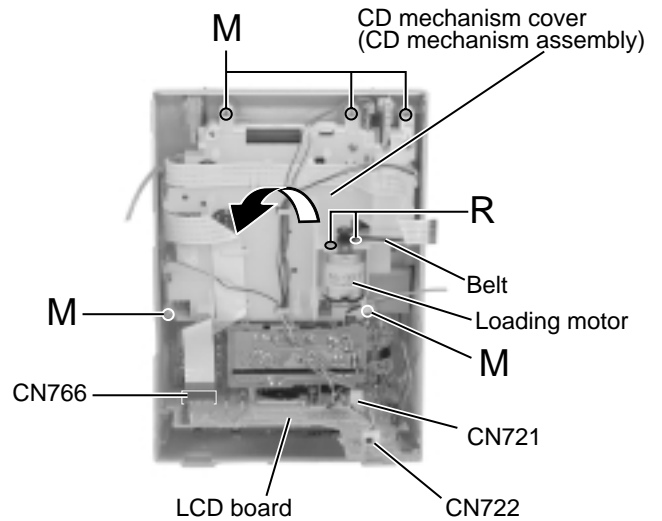

Fig.18
(See Fig.18 to 21)**
- Prior to performing the following procedure, remove the CD mechanism assembly and the LED board (A) / (B).
■ Removing the loading motor (See Fig.18)